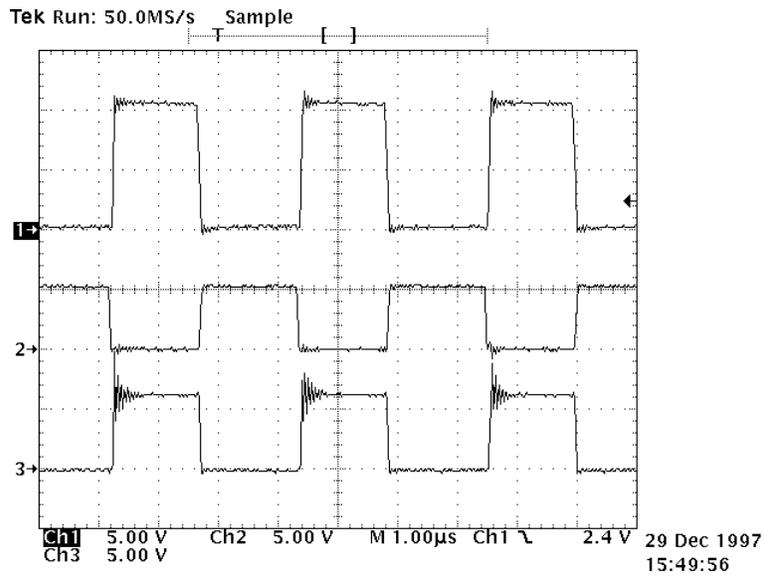

FIGURE 1. Si9143DB Sample Waveform
4. Put an oscilloscope ground to the output ground. Then connect Ch1 probe to pin 21 (DH), Ch2 probe to pin 17 (DL), and Ch3 probe to pin 20 (Lx) of Si9143. Set the scope scale to 5 V/div. for all channels. At 6-V input voltage and 2.8-V/1-A output, the resulting waveform will appear approximately as shown in Figure 1.